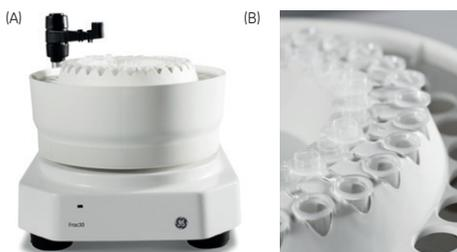

Fig 6. A) Frac30 fraction collector. B) Fraction collector showing placement of the microcentrifuge tubes.
7. Prepare Frac30 fraction collector (Fig 6).